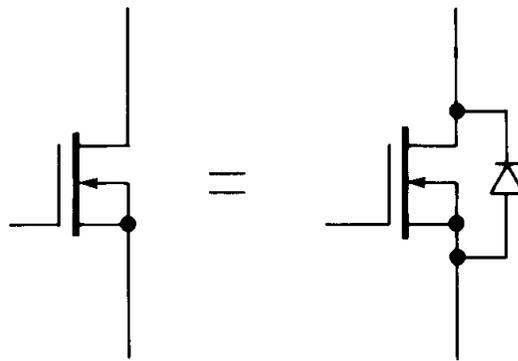

Figure 3.71. Power MOSFETs connect body to source, forming a drain-source diode.
**Other cautions.** Power MOSFETs have some additional idiosyncrasies you should know about. All manufacturers of power MOSFETs seem to connect the body internally to the source. Because the body forms a diode with the channel, this means that there is an effective diode from drain to source (Fig. 3.71); some manufacturers even draw the diode explicitly in their MOSFET symbol so that you won't forget. This means that you cannot use power